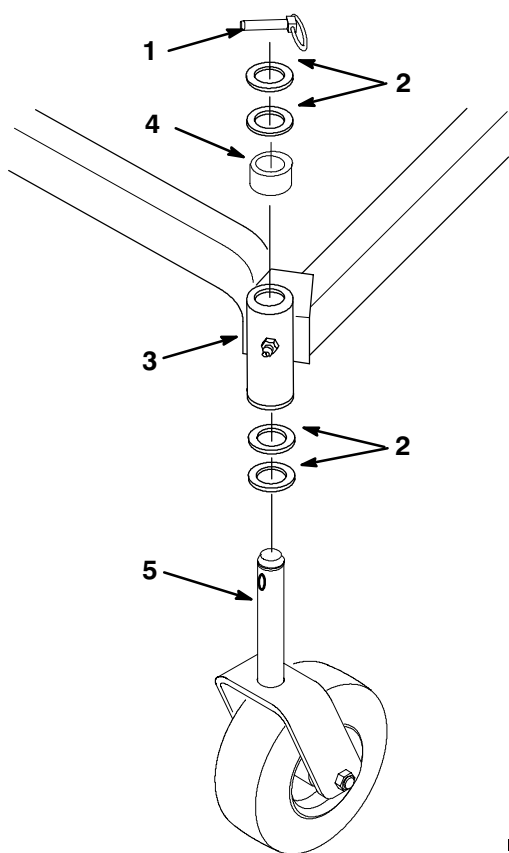

Figure 22
4. To change the front-to-rear pitch, move an equal number of thrust washers on both castor wheel forks. Move the thrust washer(s) from the top of the carrier frame mounting tube to the bottom to raise the front of the mower. Move the thrust washer(s) from the bottom of the mounting tube to the top to lower the front of the mower. (Fig. 22).
4. To change the side-to-side leveling, move the thrust washers on one castor wheel fork only. Move the thrust washers from the top of the carrier frame mounting tube to the bottom to raise the corresponding side of the mower. Move the thrust washers from the bottom of the mounting tube to the top to lower the corresponding side of the mower. (Fig. 22).